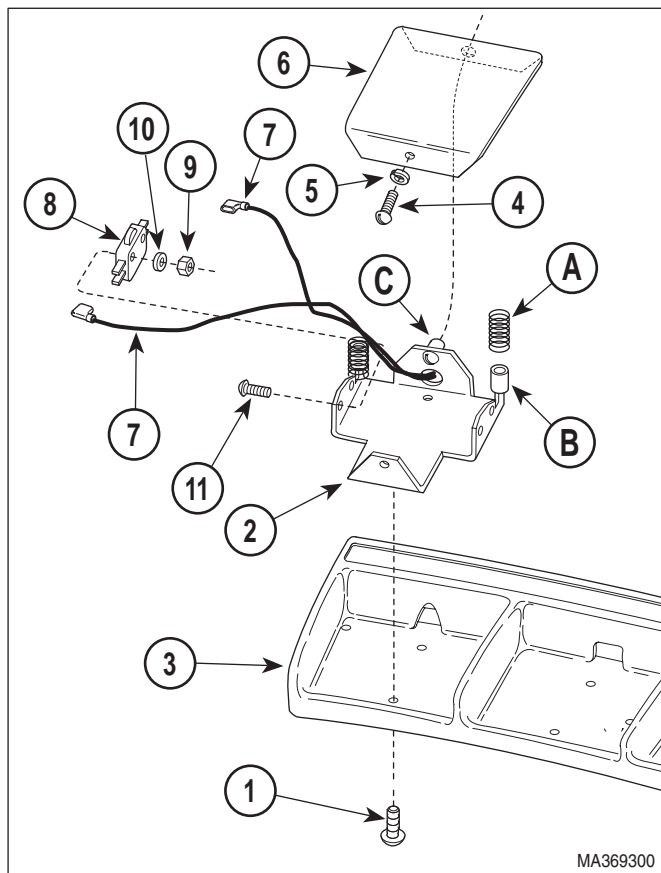

Figure 4-40. Typical Foot Control *Foot Pedal* Switch Removal / Installation
- (1) Unplug foot control cord from table.
- (2) Remove two screws (1, Figure 4-40) and partially separate foot switch bracket (2) from foot control casting (3).
- (3) Remove screw (4), spacer (5), and pedal (6) from foot switch bracket (2).
- (4) Tag and disconnect two wires (7) from terminals of foot switch (8).
- (5) Remove two nuts (9), lockwashers (10), screws (11), and foot switch (8) from foot switch bracket (2).